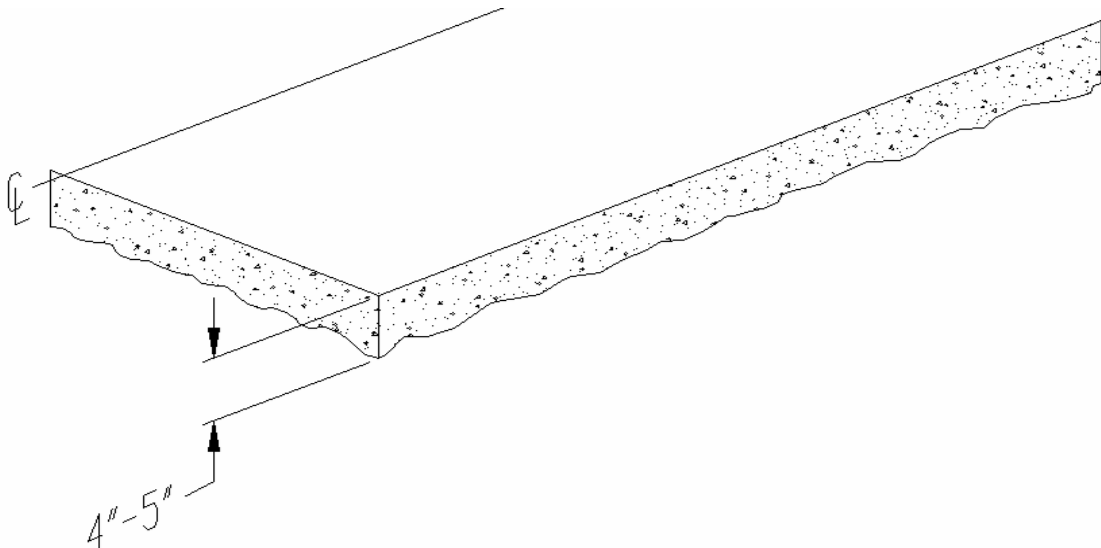

Figure 1
2. Mark a center line in the required location for reference in the layout of the anchor stud holes.  figure 1.